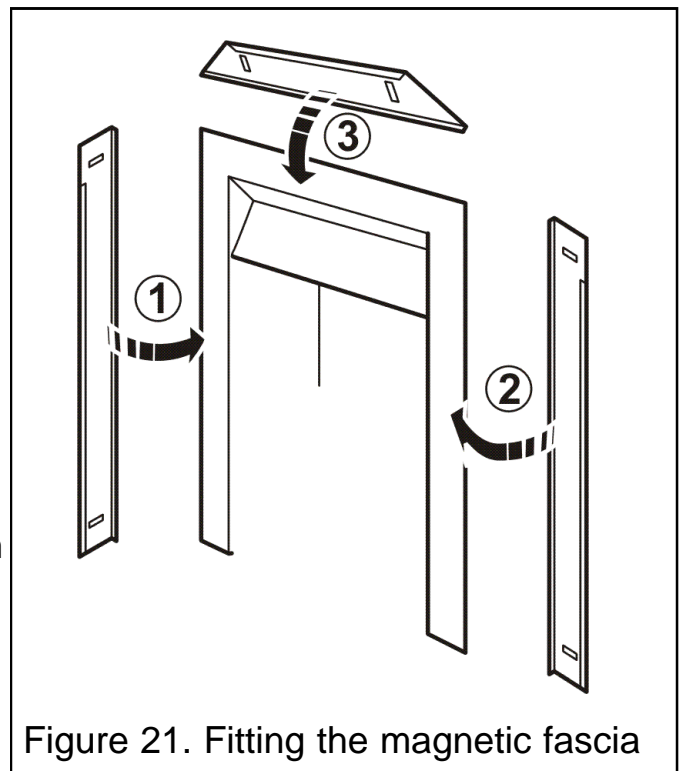

Figure 21. Fitting the magnetic fascia
3. Locate the side trims as in figure 21.
4. Locate the top trim as in figure 21.